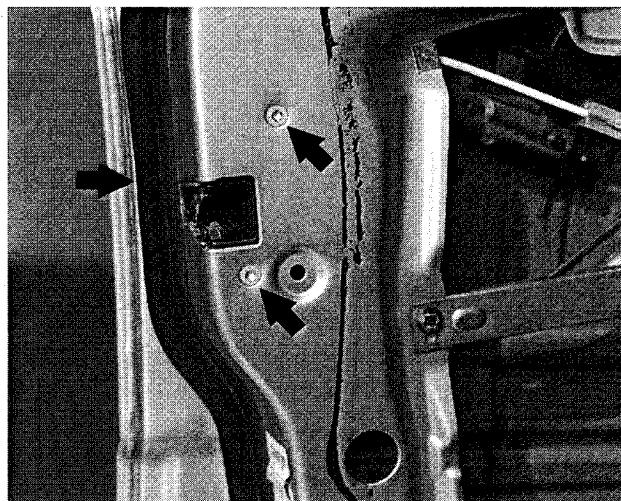

Fig. 3. Front door lock mounting screws (arrows).
7. Cut wire ties and remove door lock electrical harness connector. Remove door lock mounting screws. See Fig. 3.